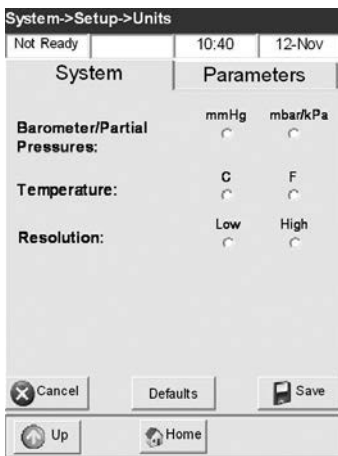

Fig. 3-29 Select Units
3. In the **<Units>** screen, select the units for the displayed parameters (Fig. 3-29).